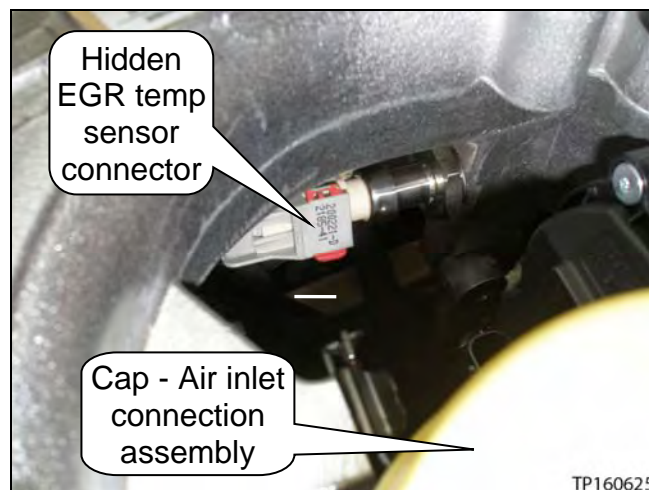

Figure 83
- Figure 83 shows the EGR temperature sensor connector when viewed between the front of the intake manifold and the air inlet connection assembly.